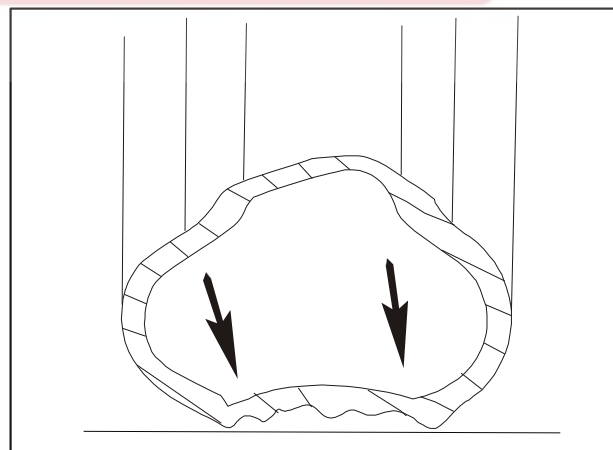

Figure 4-74 Tire Low Pressure
(2) Fault diagnosis: Driving with low-pressure tire will broaden grounding area of tread, while the middle part of tire arch slightly, force tread shoulder touch the ground, which accelerating shoulder wear, what's more, it will split tread when the vehicle running at high speed.
(3) Fault cause and elimination method: when tire pressure is low, or drive for too long a time and lack of alternation, inflate tire, as shown in Figure 4-74